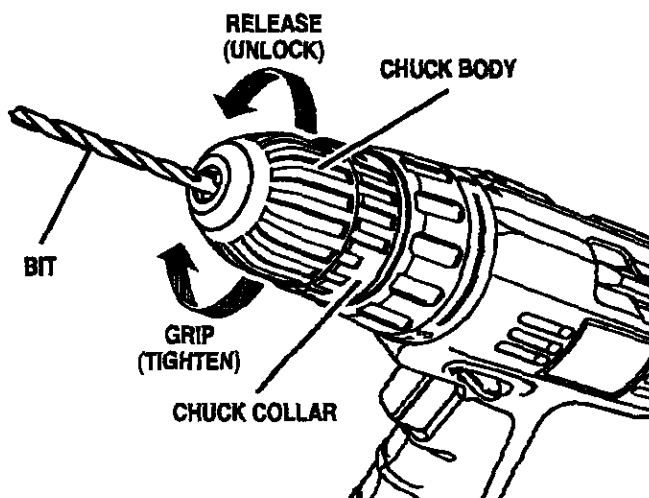

Fig. 9
- Insert your drill bit into the chuck the full length of the jaws. See Figure 9.